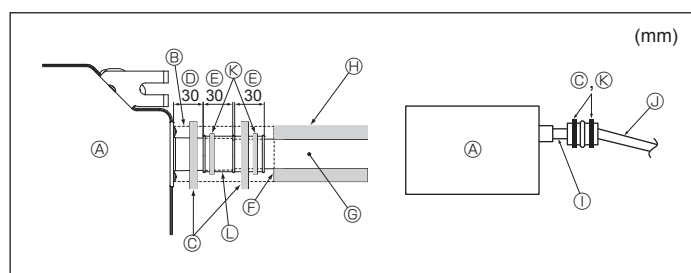

Fig. 6-2
- ① O.D. ø38 PVC TUBE for grouped piping (9 mm or more insulation)
1. Connect the drain socket (supplied with the unit) to the drain port. (Fig. 6-2)